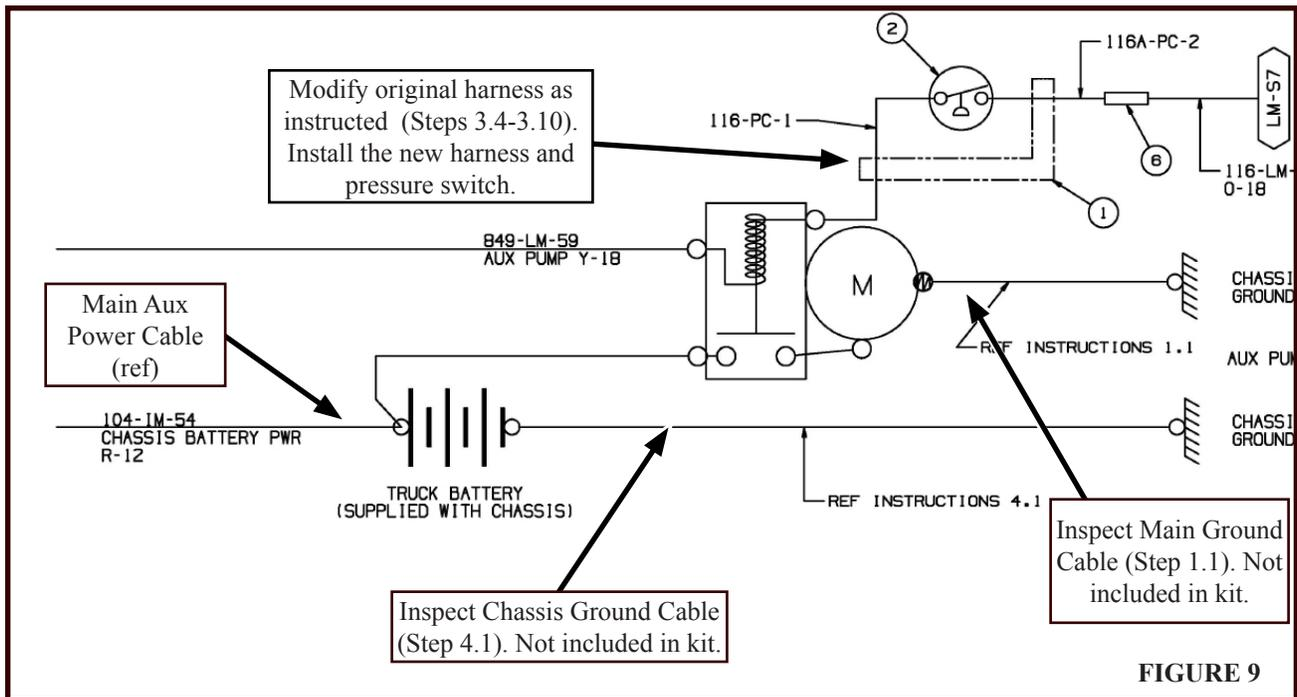

FIGURE 9
4.1 Verify that there is a battery cable from the negative chassis battery terminal to the chassis frame rail. See schematic **FIGURE 9** and **FIGURES 10 - 11 - 12 - 13**.